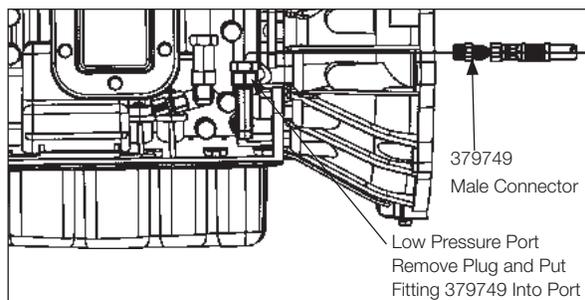

Figure 30
2. Next remove the low pressure port plug located on the right side (passenger side of transmission) and install part number 379479 male connector fitting into port (**Fig. 30**).